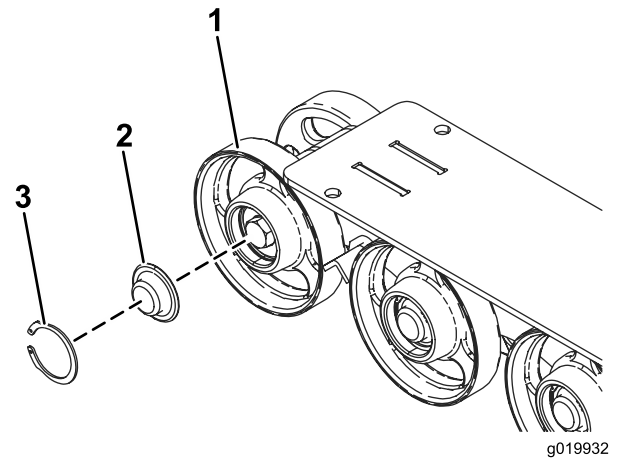

**Figure 51**
3. Remove the snap ring and cap from a road wheel (Figure 51).
4. Check the grease under the cap and around the gasket (Figure 51). If it is dirty, gritty, or depleted, clean out all of the grease, replace the gasket, and add new grease.
6. Place the greased road wheel cap over the bolt head (Figure 51).
7. Secure the road wheel cap with the snap ring (Figure 51).